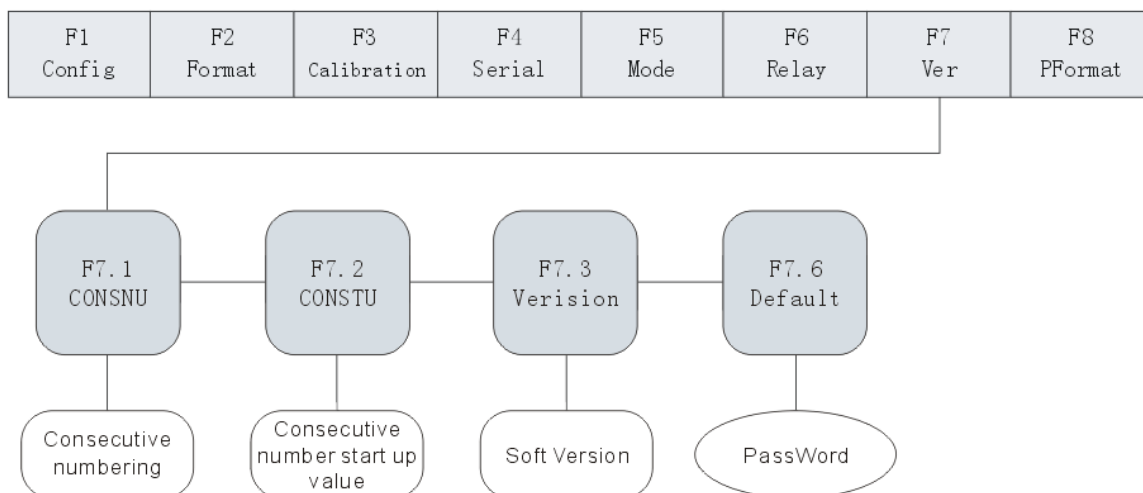

Fig. 9-1 F7(Ver) Menu
- (1) Turn on the K1 switch to set indicator to the Configuration mode. Display shows "F 1".
- (2) Press  until display shows "F 7" (see Fig. 9-1). Press  to go to F7 Menu. Display shows "F 7.1". Press  twice until display shows "F 7.3".
- (3) When indicator shows "F 7.3", press  again, display shows the current software version "XX.XX". Software version cannot be edited.
- (4) Press  to return to F7.3 Menu. Display shows "F 7.3".
- (5) Turn off the K1 switch to exit from Calibration mode and enter into Weighing Mode.
- (2) Press  until display shows "F 7" (see Fig. 9-1). Press  to show "F 7.1". Press  until display shows "F 7.6".